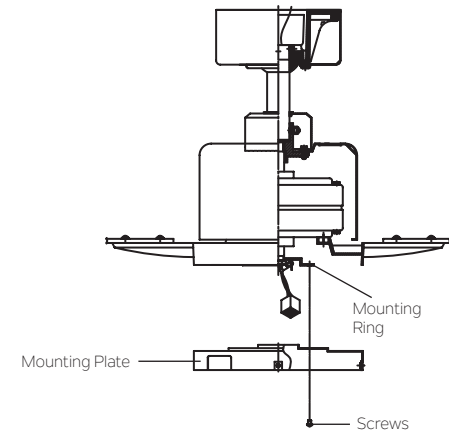

Fig. 15
Step 1. Loosen the two screws on the mounting ring attached to the motor shaft and “remove” and save the third screw. (Fig. 15)
Step 2. Place the key holes on the mounting plate over the 2 screws previously loosened from the mounting ring, turn mounting plate until it locks in place at the narrow section of the key holes. Secure by tightening the 2 screws previously loosened and the one previously removed. (Fig. 15)